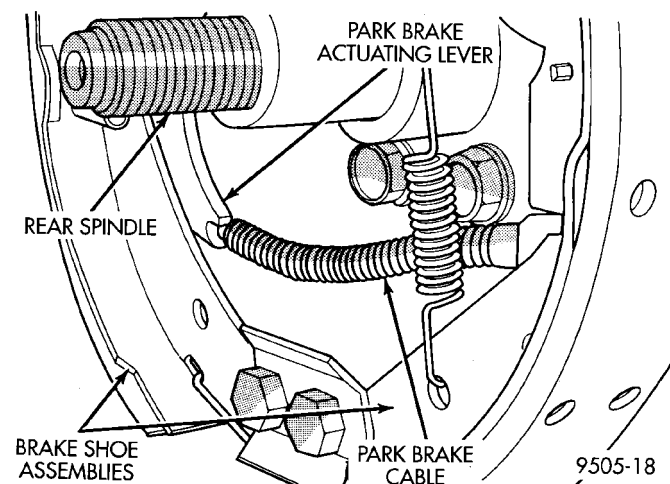
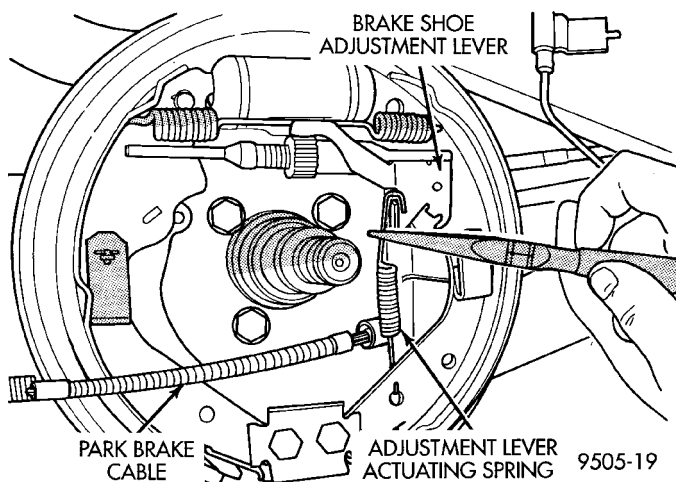

Fig. 146 Park Brake Cable Attachment To Actuating Lever
Fig. 147 Brake Adjustment Lever Actuating Spring
(18) **On vehicles equipped with rear drum brakes,** remove park brake cable from park brake actuating lever (Fig. 146). Then remove the actuating spring (Fig. 147) between brake shoe adjustment lever and brake shoe assembly.
(4) **On vehicles equipped with rear drum brakes**, install park brake cable on park brake cable actuating lever (Fig. 146). Then install actuating spring between brake shoe assembly and brake adjustment lever (Fig. 147).